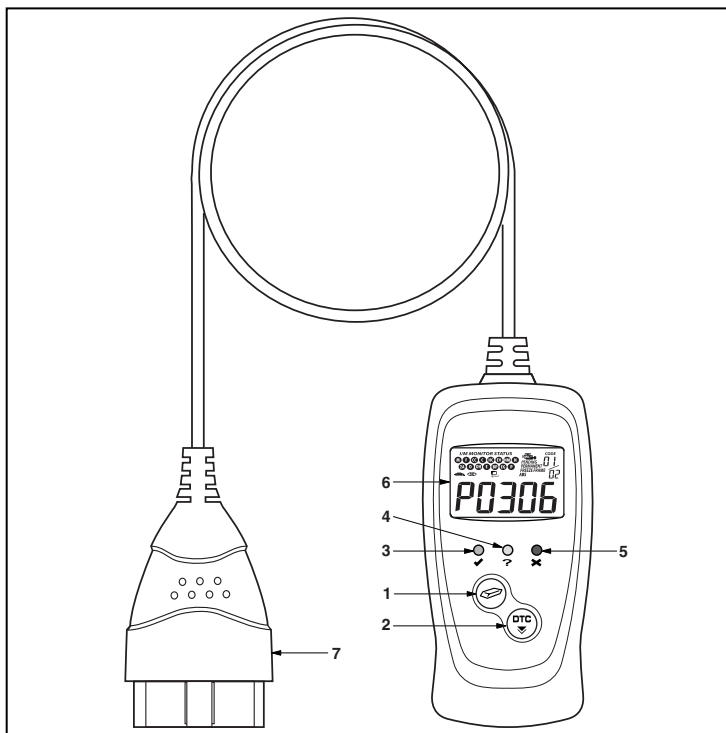

Figure 1. Controls and Indicators
See Figure 1 for the locations of items 1 through 7, below.